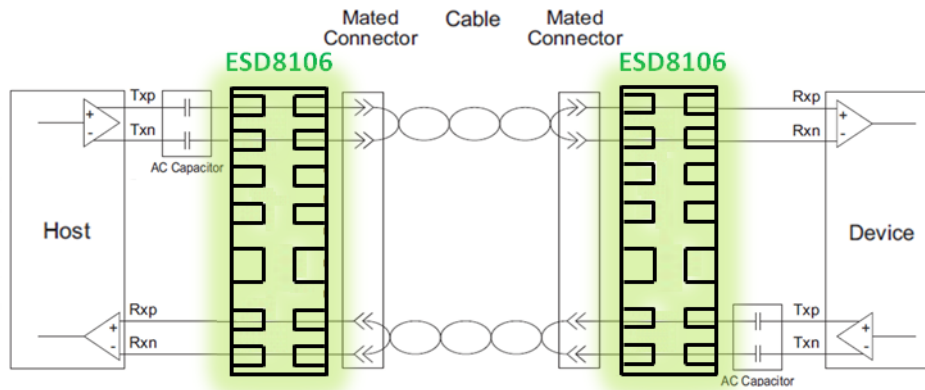

Figure 14. USB 3.0 Connection Diagram
- ◆ In USB 3.0 applications, the ESD protection device should be placed between the AC coupling capacitors and the I/O connector on the TX differential lanes as shown in Figure 14.